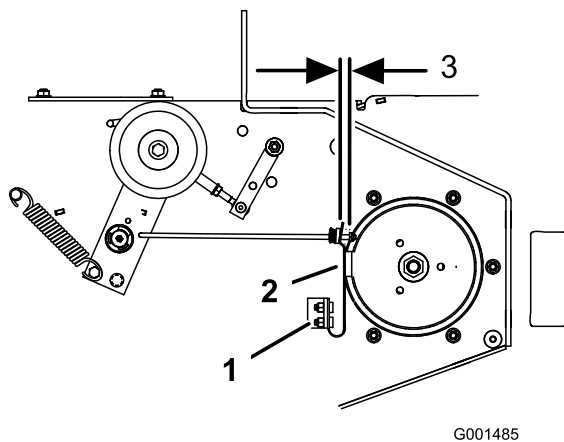

Figure 51
3. If necessary, adjust the spring mounting bolts so that the blade brake pad rubs against both sides of the pulley groove (Figure 51).
4. Adjust the nut at the end of the blade brake rod until there is 1/8-3/16 inch (3 mm–5 mm) between the nut and spacer (Figure 51).